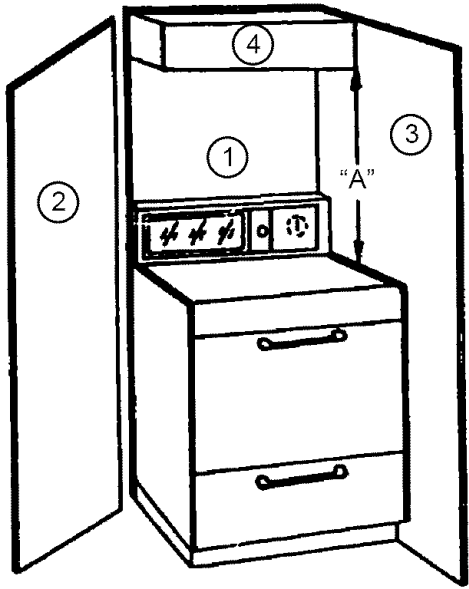

FIGURE 1
For complete information in regard to installation of freestanding range, see figures 1 and 2 on page 2. For **SAFETY CONSIDERATIONS** do not install a range in any combustible cabinetry which is not in accord with the installation clearances shown in figure 1.
- FIGURE 1